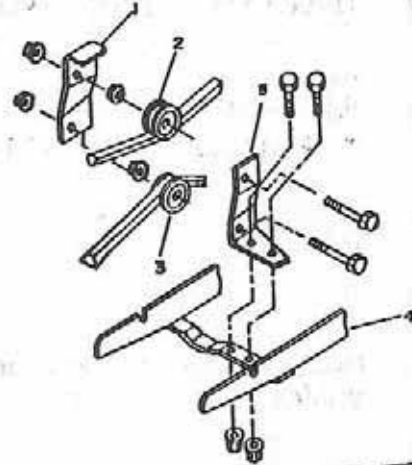

FIGURE 8
- Install the idler support (fig. 8, item 5) on snowblower male hitch (item 4) using two 5/16 X 1" bolts and nuts. Tighten securely.
- Remove the idler guard (fig. 8, item 1). Place the bottom section of the V-belt on top of the bottom idlers (item 3) and the top section of the V-belt under the top idler (item 2). Reinstall the guards, using 3/8" nuts, tighten securely.